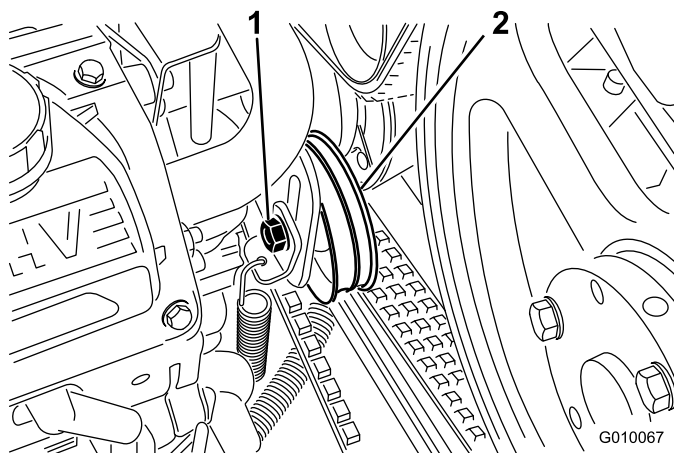

Figure 57
3. Loosen the pump belt idler bolt just enough to allow movement within its adjustment slot (Figure 57).